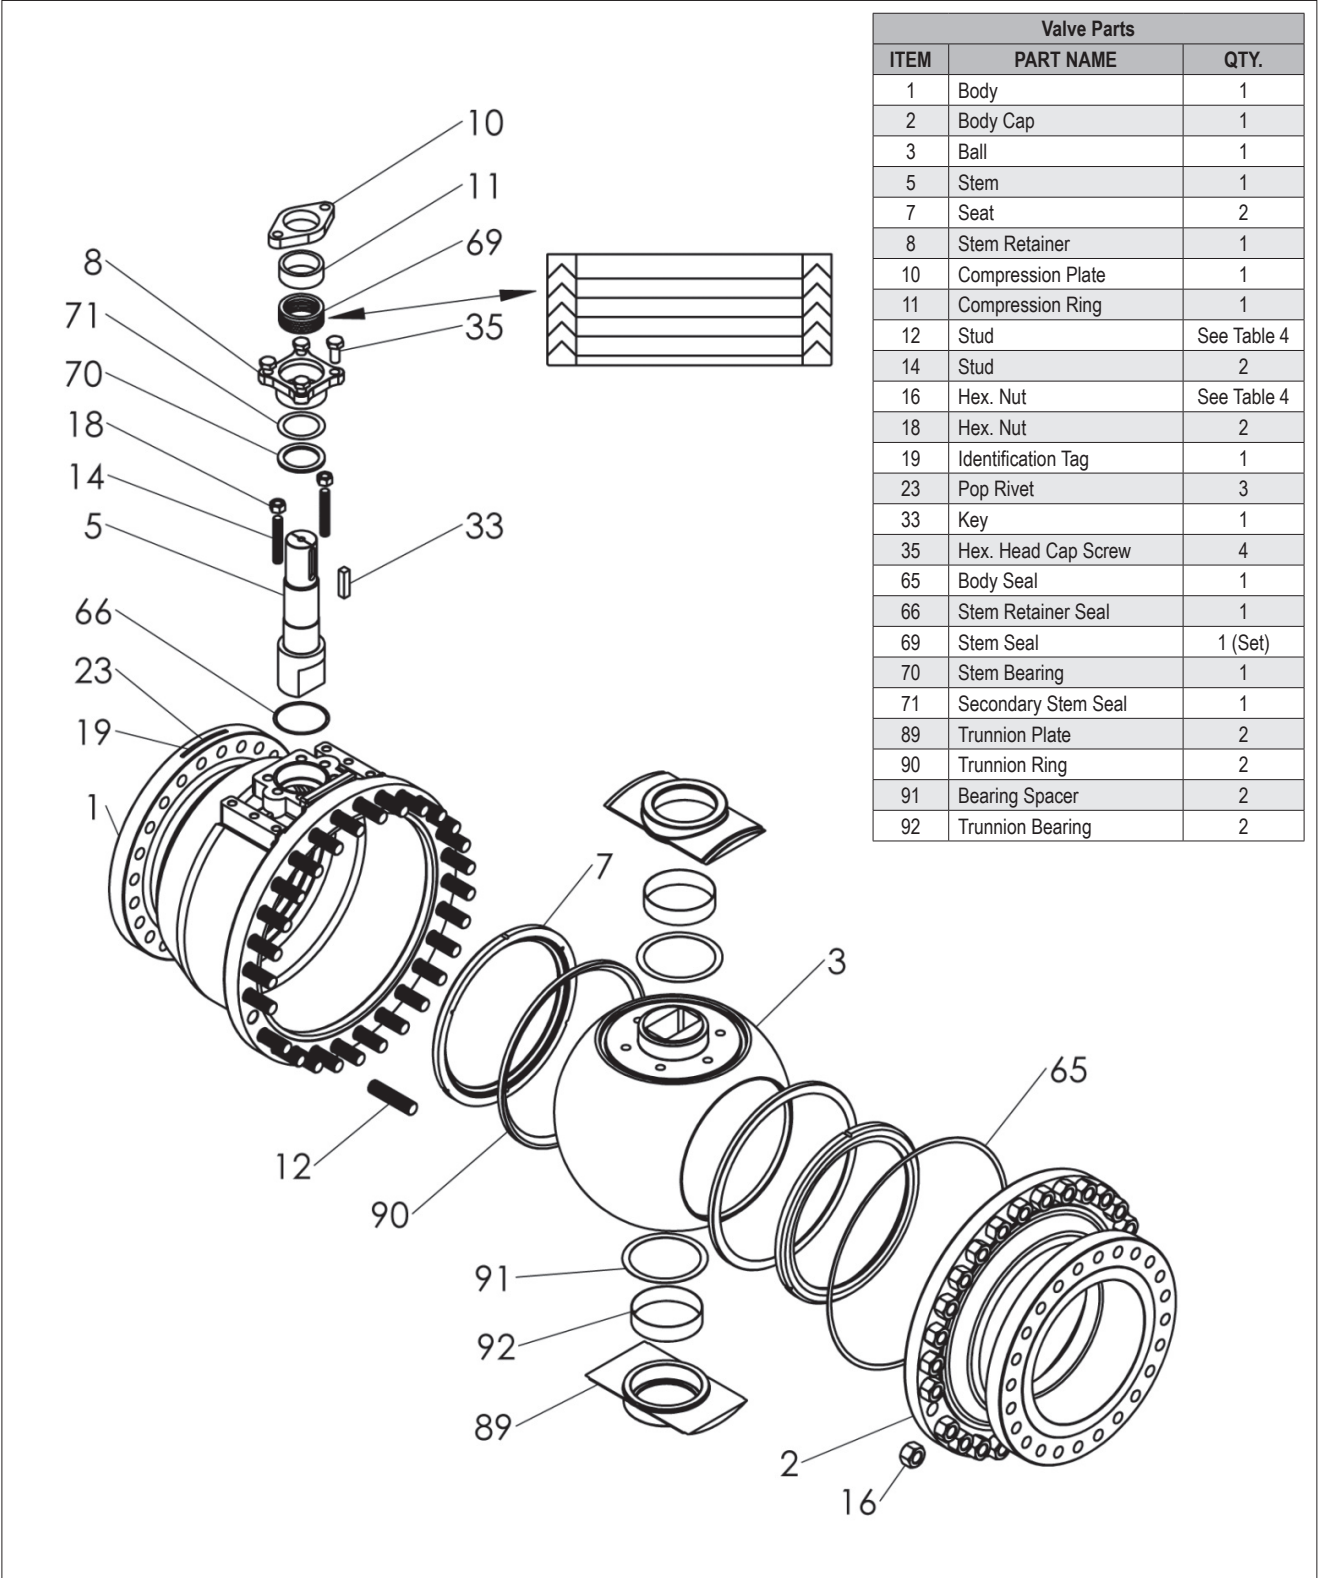
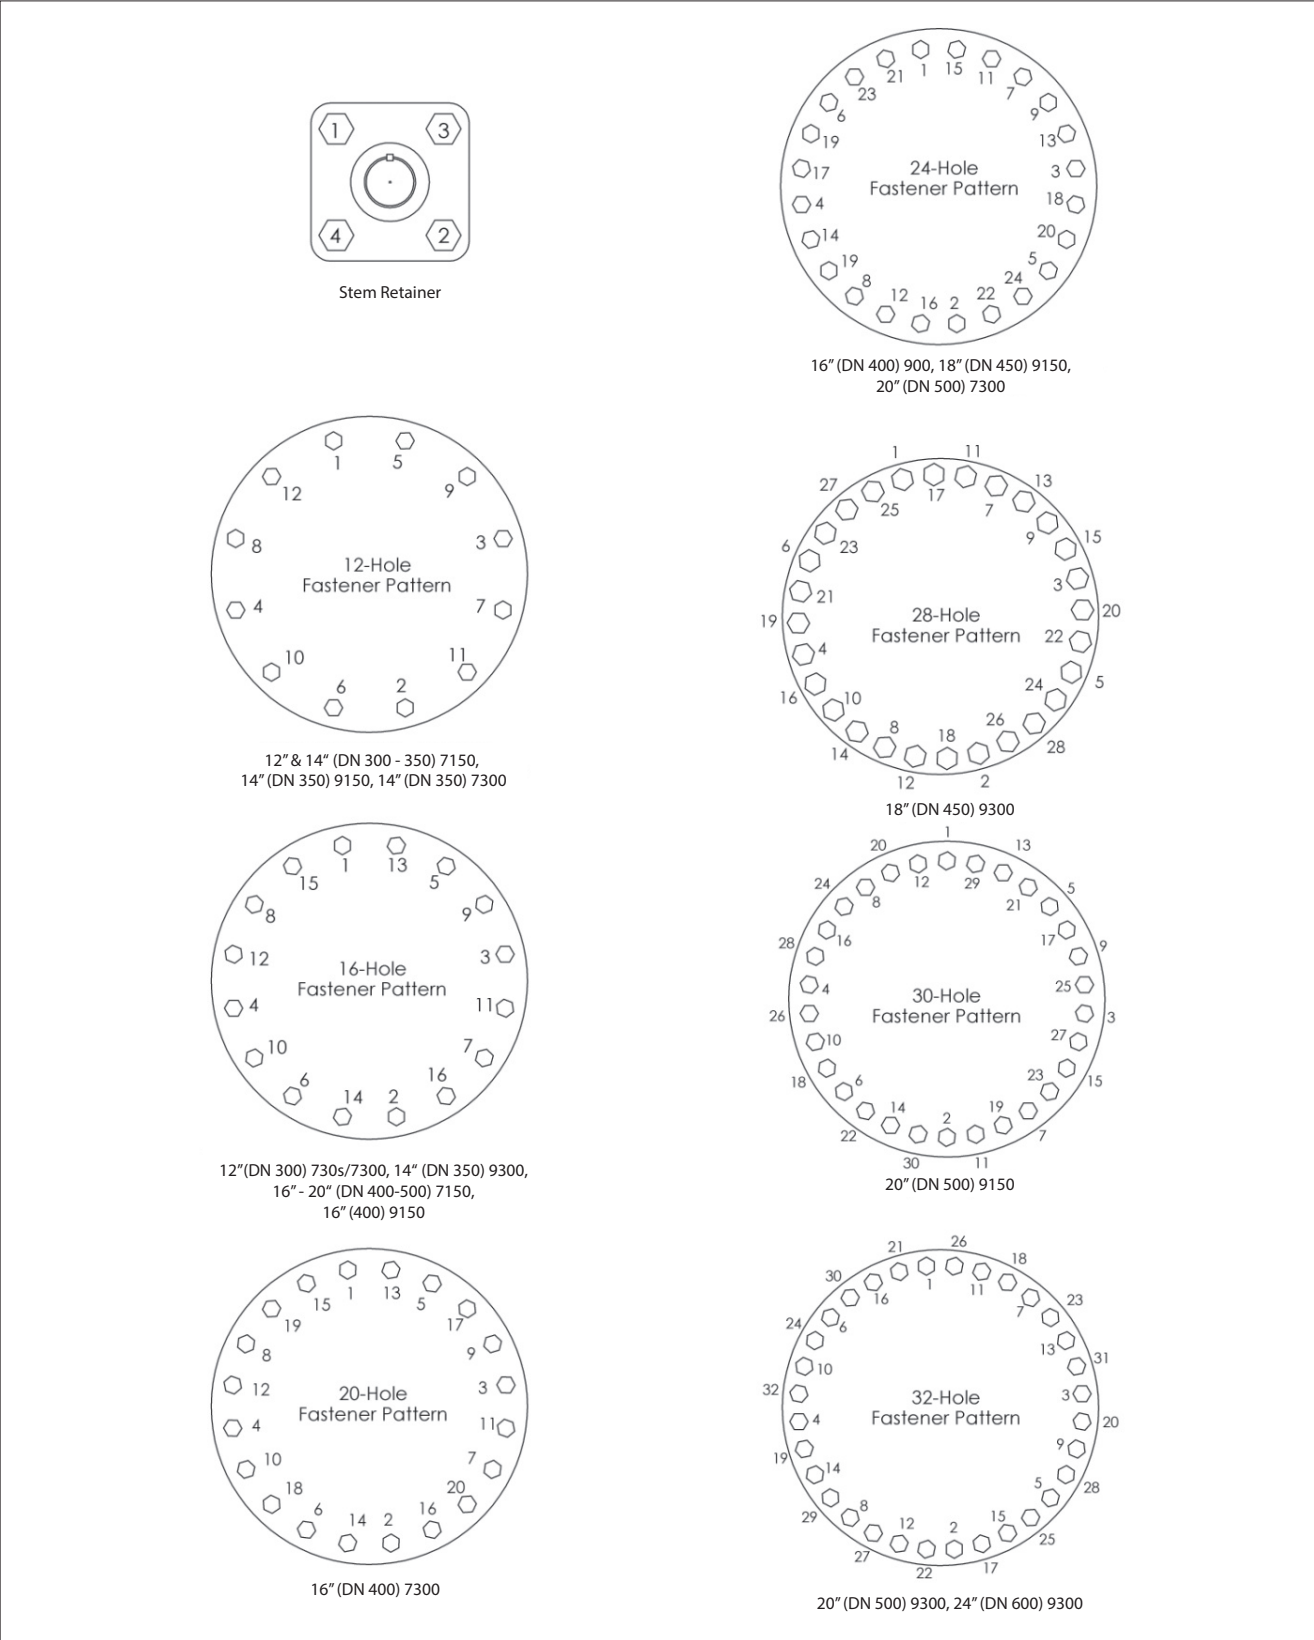
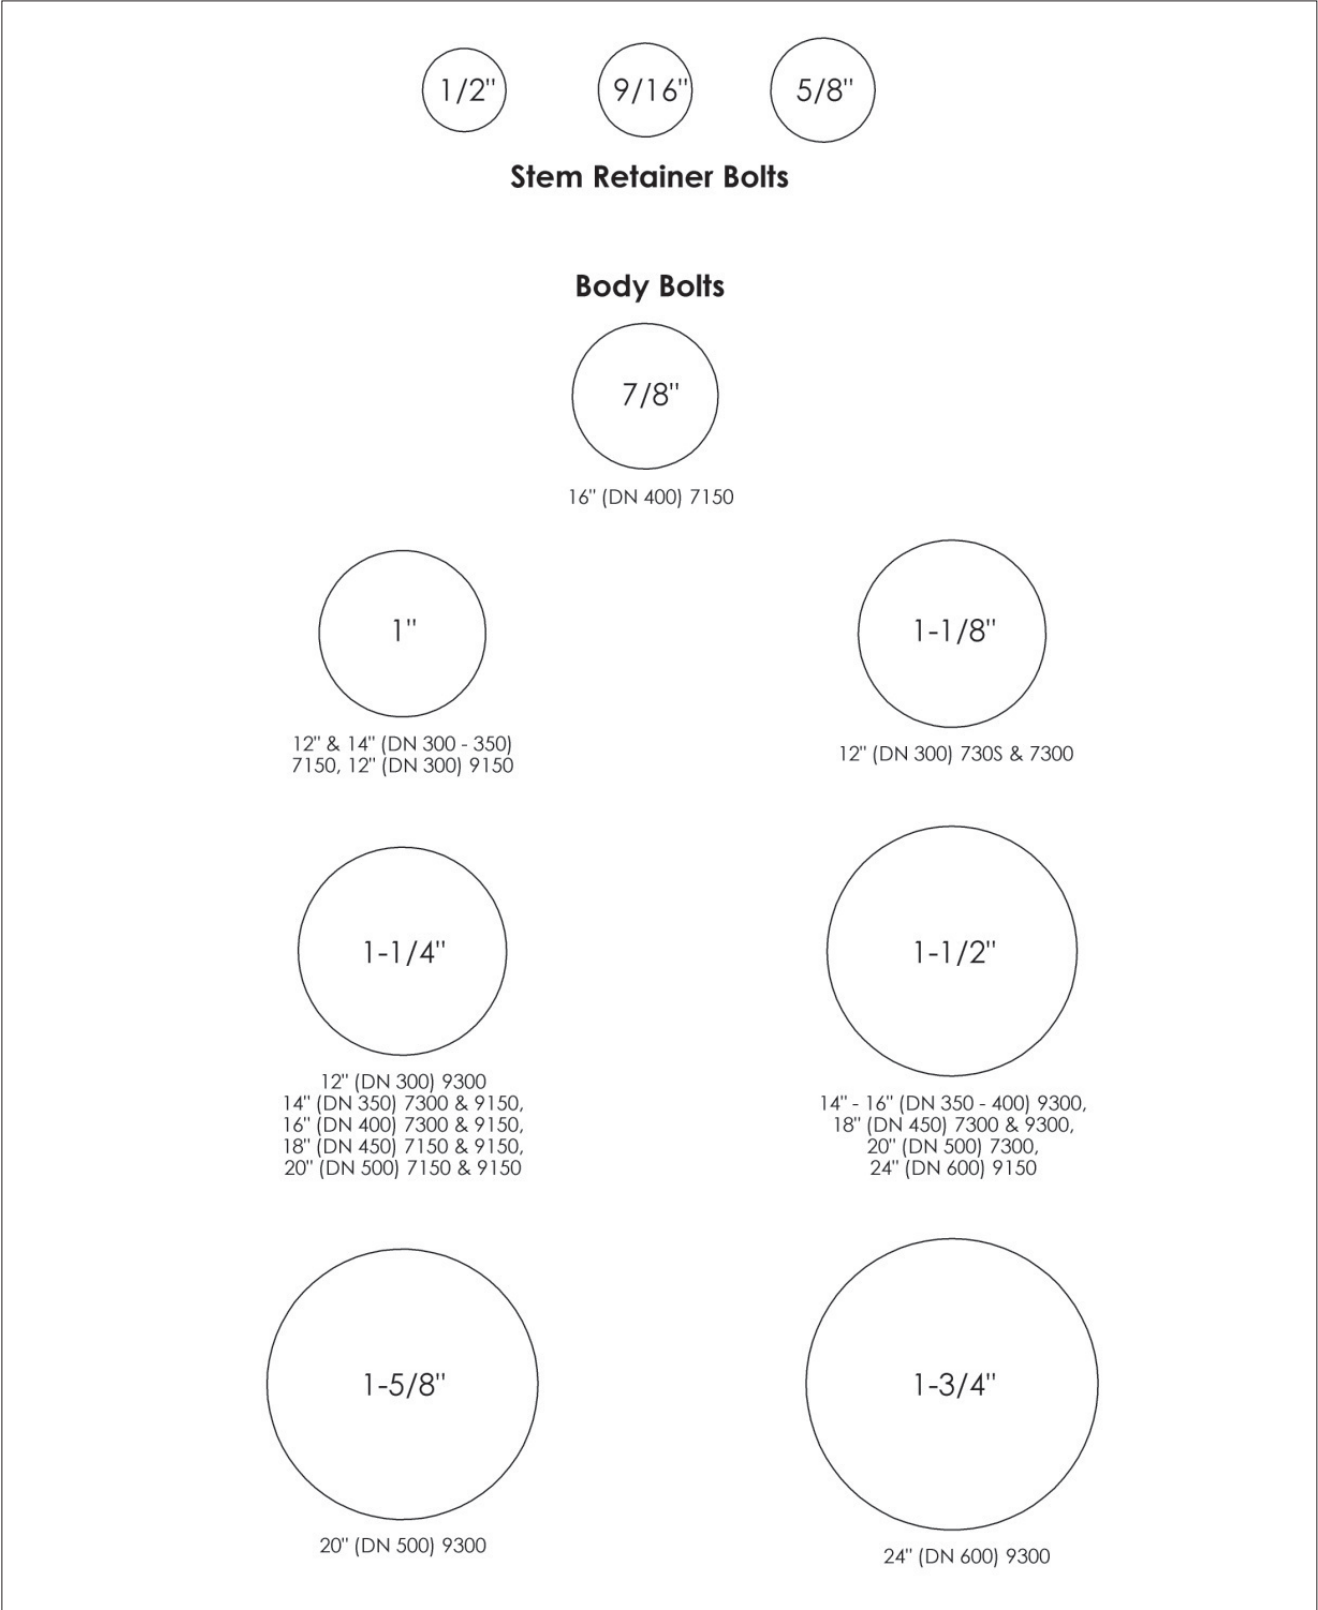
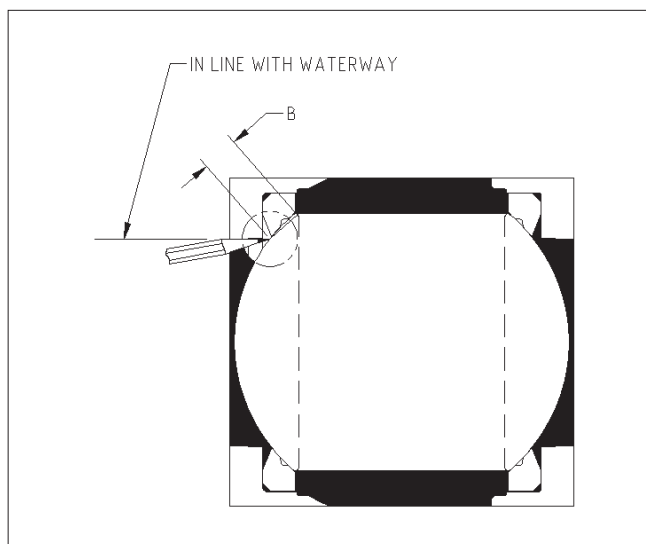

Figure 1.
Figure 2.
Figure 3.
Figure 4.
5. Place the valve in a vertical position with the body cap (2) facing upward and the ball in the closed position. Refer to the exploded view (**Figure 1**) for part number identification.
6. Remove the bonnet stud nuts (18), drive key (33), compression plate (10), compression ring (11) (if fitted), and four hex head cap screws (35).
7. Remove the stem (5) and the stem retainer (8) as a subassembly. It may be necessary to loosen with a block of wood and hammer.
8. Push down on top of stem (5) to remove it from the stem retainer (8).
9. Remove secondary stem seal (71) and stem bearing (70) from stem. Pry out and discard the upper stem seal set (69) from the stem retainer (8), being careful not to scratch any sealing surfaces.
10. Remove and discard the stem retainer seal (66) from the body.
11. Remove the body nuts (16) and the body cap (2).
12. Remove the body seal (65) and body cap seat (7). It may be necessary to pry the seat from the cap. Do not scratch sealing surfaces.
13. Remove the ring (90) nearest the body cap before removing the ball. Remove the ball (3) and trunnion plates (89) as a subassembly. (The subassembly consists of the ball with a trunnion plate on both ends with their appropriate bearings and spacers.)
14. Pull each trunnion plate away from the ball and remove the bearing spacer (91). Trunnion bearings (92) and spacers (91) are not included in repair kits. Remove the remaining trunnion ring (90) from the body.
15. Remove the body seat (7).
1. Place the body (1) in a vertical position with the body cap (2) end facing upward. Assemble a seat (7) in the body with the flat surface of the seat against the body (**see exploded view in Figure 1**). Place a trunnion ring (90) on the seat and into the machined diameter in the body. For 12" and 14" (DN 300 and 350) 7000 align the ring with clearance grooves in the 6:00 and 12:00 position with the stem considered at 12:00.
2. Place a bearing spacer (91) over each ball trunnion.
3. If fitting new trunnion bearings, insert trunnion bearing (92) into each trunnion plate (89) counter bore.
4. Fit a trunnion plate over each ball trunnion until the plate rests against the bearing spacer (91). This operation must be performed with care and without excessive force, or the bearings may be damaged. The plate should be started squarely on the trunnion and evenly tapped with a plastic mallet. With new bearings it may be necessary to tap and rotate the plate all the way on. Lubrication is helpful. Once installed, without cocking, the plate will be snug but can be smoothly rotated with a mallet or block of wood.
5. Align trunnion plates (89) relative to ball port as shown in (**Figure 1**). This will approximate proper position when the ball and trunnion plate subassembly is lowered into the body.
6. Lower the ball/trunnion plate subassembly partially into the body. **NOTE:** For 12" and 14" (DN 300 and 350) 7000 this procedure is critical, and careful attention must be paid to the trunnion plate pilot projection. These projections must properly engage inside the corresponding trunnion ring (90) in the body. Carefully lower the subassembly into the body and guide the trunnion plates (89) for proper seating. When seated, place the second trunnion ring (90) over the trunnion plate machined diameters.
7. Slide the stem bearing (70) over the top of the stem (5) and down to the stem shoulder. Place a secondary stem seal (71) over the stem and down on top of the stem bearing (70).
8. Slide the stem retainer (8) over the stem and down the top of the secondary stem seal (71).
9. Slide the upper stem seal set (69) over the stem and down into the stem retainer. ("V" shape of stem seals must point away from the ball (**see Figure 1**)).
10. Slide the compression ring (11) and/or the compression plate (10) over the stem and down to the upper stem seal set (69) in the stem retainer (8). Add the indicator plate as applicable.
11. Place the stem retainer seal (66) in the bonnet groove of the body (1).
12. Slide the stem (5) into the stem bore of the body (1) and engage the ball (3).
13. Align stem retainer (8) flange holes with tapped holes in bonnet. Lubricate the cap screws with Never-Seez® or equivalent. Place the four hex head cap screws (35) through the stem retainer flange and thread into the body (1). Tighten per (**Table 2 and Figure 2**). Install the key on key drive stems per (**Figure 1**).
14. Place the two hex nuts (18) on the gland studs (14), and thread down until contact is made with the compression plate (10).
15. Place the body seal (65) in the body groove.
16. Assemble a seat (7) in the body cap (2) with the flat surface of the seat against the body cap (**see Figure 1**). If the seat fits loosely in the cap, apply lubricant to the underside to hold it in position. **NOTE:** The ball must be closed before proceeding to Step 17. Do not install body cap (2) with the ball in any other position.
18. Using Never-Seez® or equivalent, lubricate the threads and underside face of each body fastener (12). Tighten the body hex nuts (16) with sequence and torque per (**Table 2 and Figure 2**). For identification of size, compare the fastener to (**Figure 3**).
19. Tighten the two hex nuts (18) evenly until the stem seal set is fully seated, then tighten the nuts an additional 1/8 to 1/4 turn. Pull on the stem (5) while tightening to assure that the stem bearings are always in contact with the stem retainer.
B. Valve Closed Position: Scribe a pencil mark on the ball as shown in (**Figure 4**). Open the valve and measure Dimension "B" (**see Table 3**). Allowable deviation from the values in (**Table 3**) is $\pm 1/16"$ (± 1.6 mm).